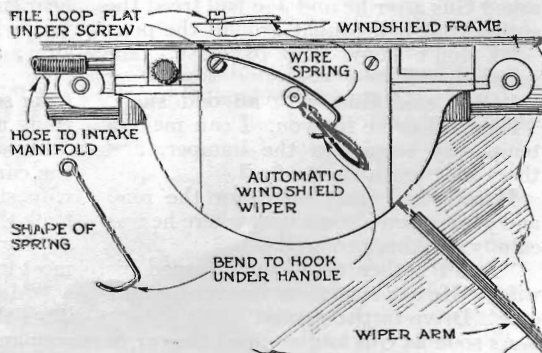

Fig. 3. The wiper on any of the vacuum types of automobile windshield wipers can be kept out of the way with a piece of spring wire bent as shown
**T**HE mechanism of your windshield wiper wears in after it has been in use for some months and then you will experience some bother because the jarring of the car will gradually move it down into your line of vision. To save yourself the annoyance of constantly pushing it up out of the way, add a spring clip as shown in Fig. 3. Then when you wish to use the wiper on rainy days, the end of the spring is slipped out from underneath the arm and it snaps away from the path of the wiper arm. If your wiper is different from that illustrated, change the shape of the spring to clamp under any convenient screw.